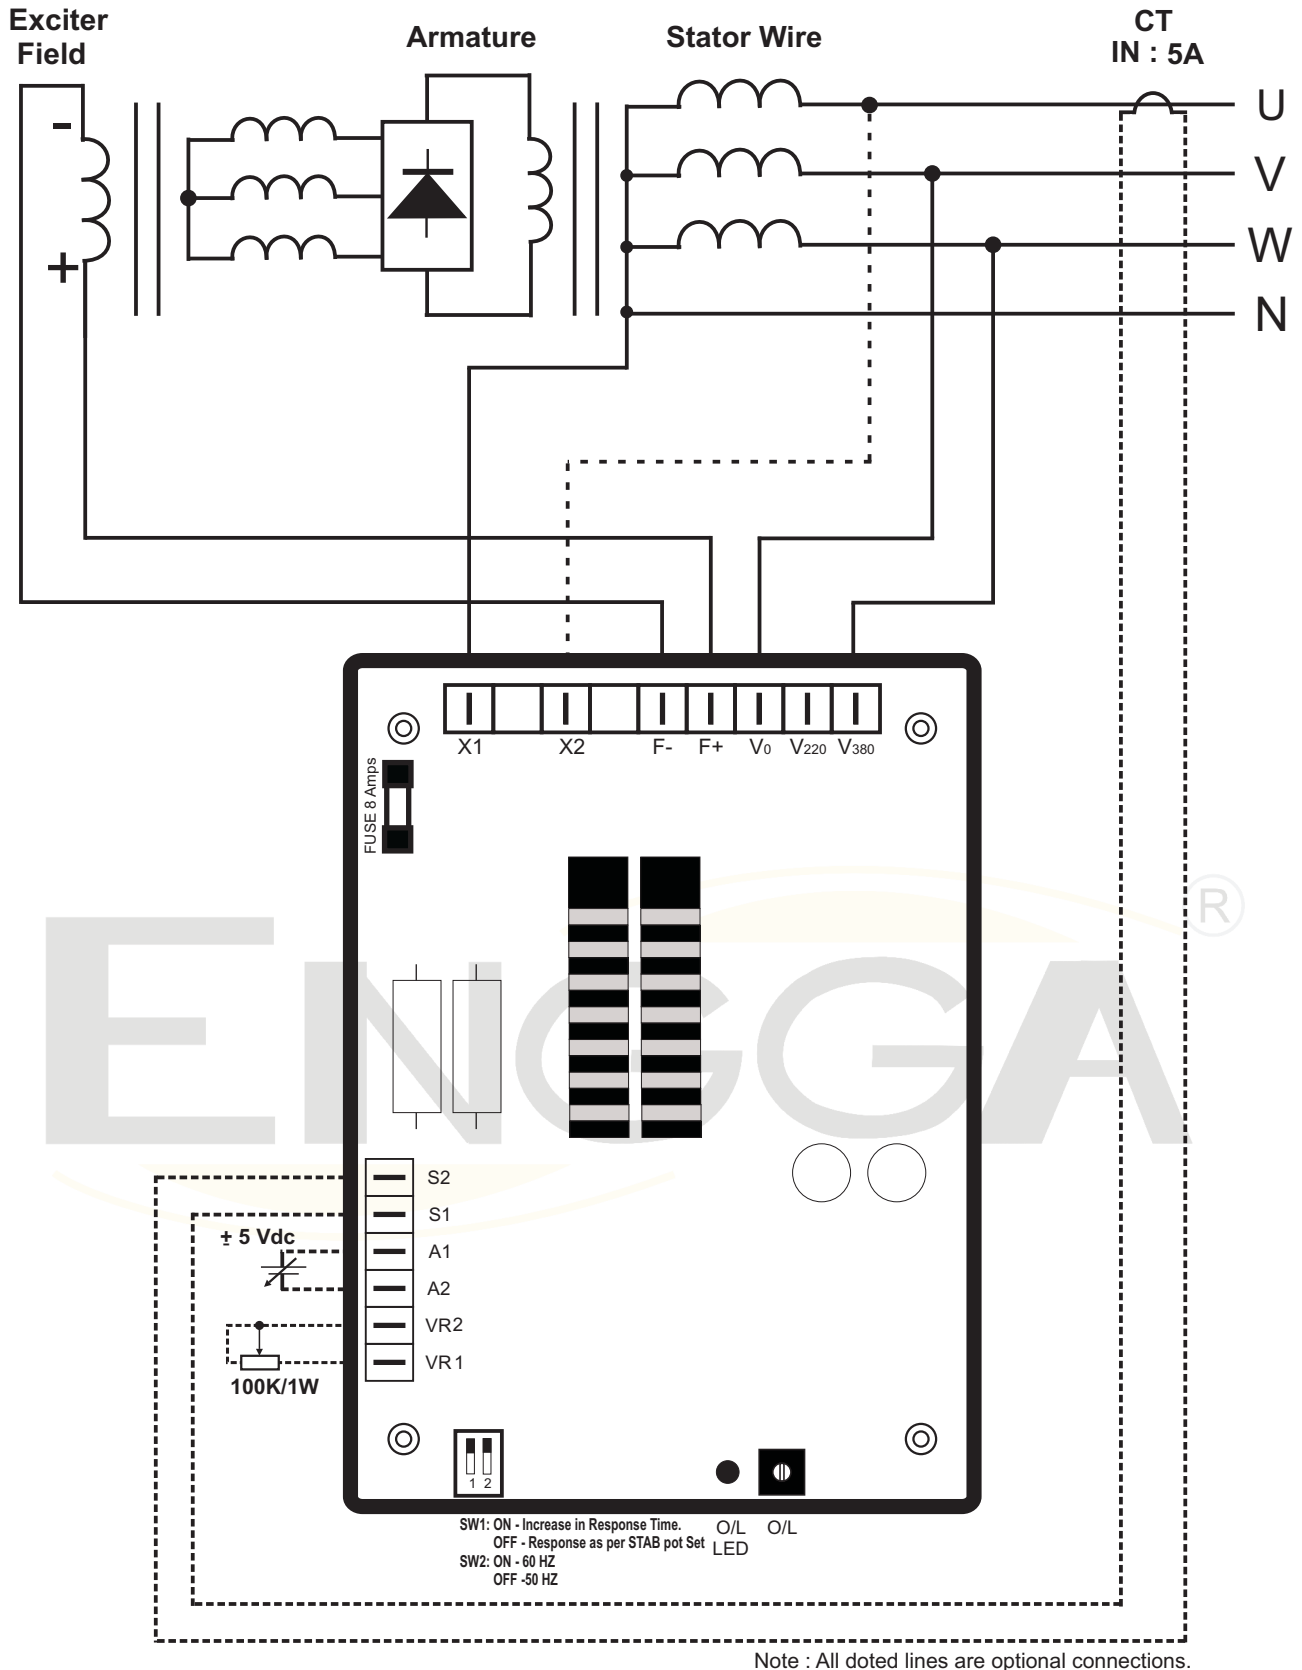

Figure 3. Connection Diagram for 400 Vac Operation
The sensing should be connected "Line to Line" from generator output. Refer Figure 3 & 4.
3. Power Input: AVR power input is between X1 & V_0 . For **400 Vac system** X1 is connected to Neutral of generator & V_0 to V Phase of generator. For **220 Vac system**, X1 is connected to U Phase & V_0 to V Phase of generator. Refer to Figure 3 & 4.
If an external voltage adjust control is being used, connect a 100 K / 1 watt potentiometer to terminals **VR1** and **VR2** as shown in Figure 3 & 4. If not in use then let VR1 & VR2 left open.